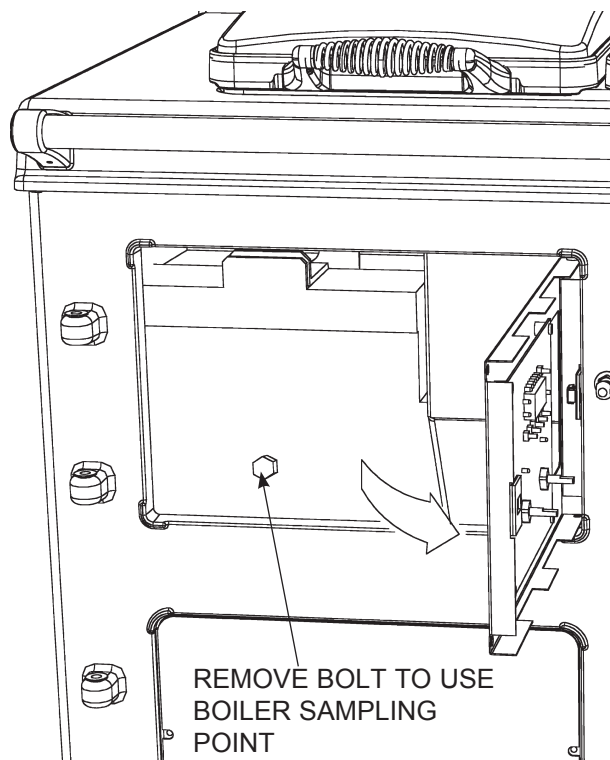

Fig. 24 - Rayburn 680K CD shown
2. Remove plug from sampling point. (See Fig. 24).